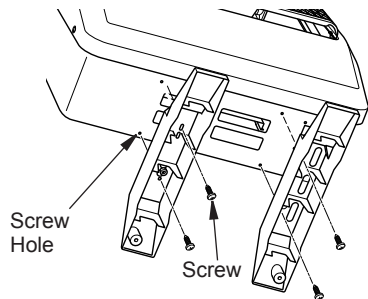

Figure 12 - Attaching Base Feet to Heater
1. Align screw holes in base feet to the bottom of the heater. Attach using Phillips head screws (provided) (see Figure 12).